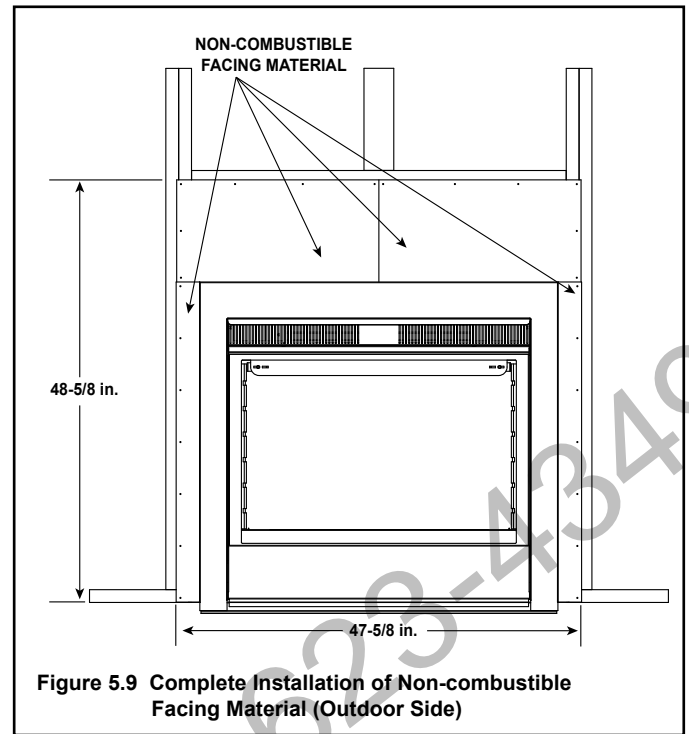

Figure 5.9 Complete Installation of Non-combustible Facing Material (Outdoor Side)
- Use fasteners from fastener packet (in manual bag) in shaded areas. See Figure 5.9.